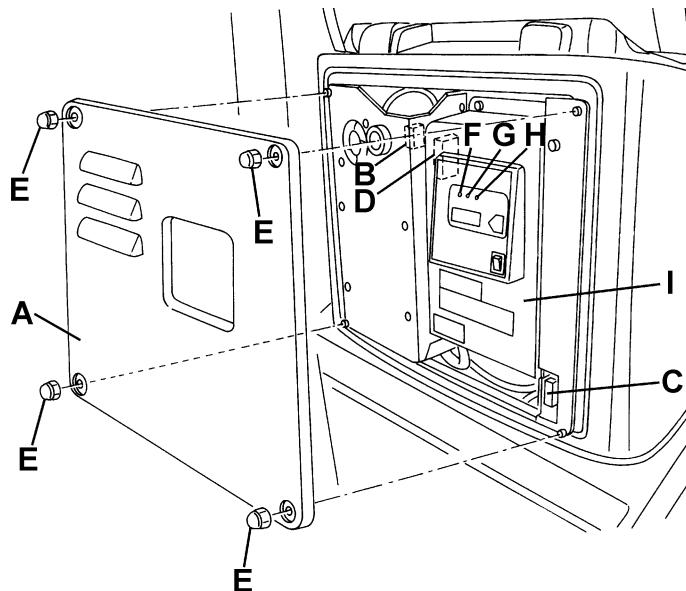

Figure 7
- If the red warning light (F, Fig. 7) on the battery charger control panel stays on, the battery charger is charging the batteries.
4. When the green warning light (H) turns on, the battery charging is completed.
5. When the battery charging is completed, disconnect the battery charger cable (8) from the electrical mains and wind it round its housing (7).
- Carefully lower the tank assembly (71).
1. Turn the ignition key (42) to "0".
2. Remove the nuts (E, Fig. 7), then remove the cover (A).